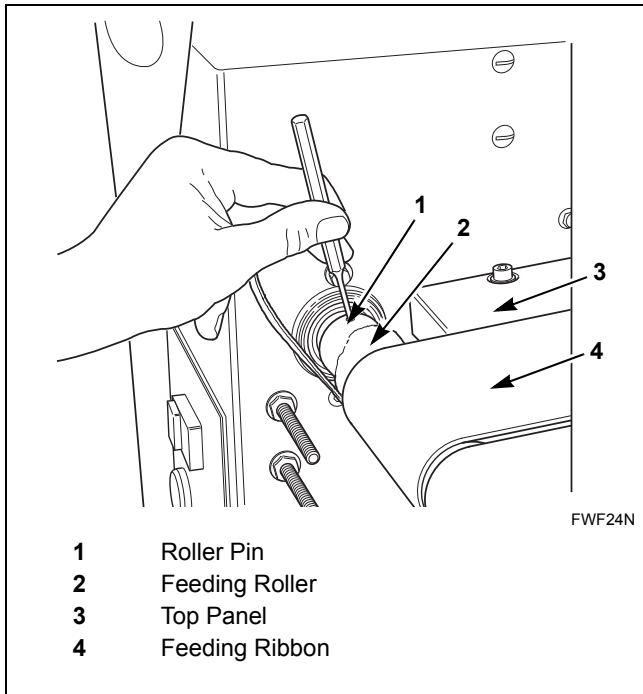

Figure 30
- Using a center punch, completely knock out feeding roller pin. Refer to *Figure 30*.